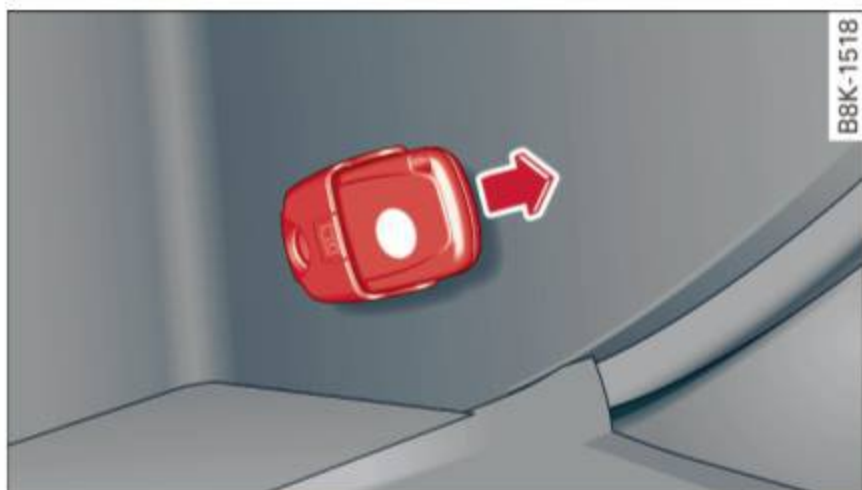

Fig. 77 Glove compartment: Adapter for emergency key
- ▶ Take the adapter for the emergency key out of the glove compartment ⇒ *fig. 77*.